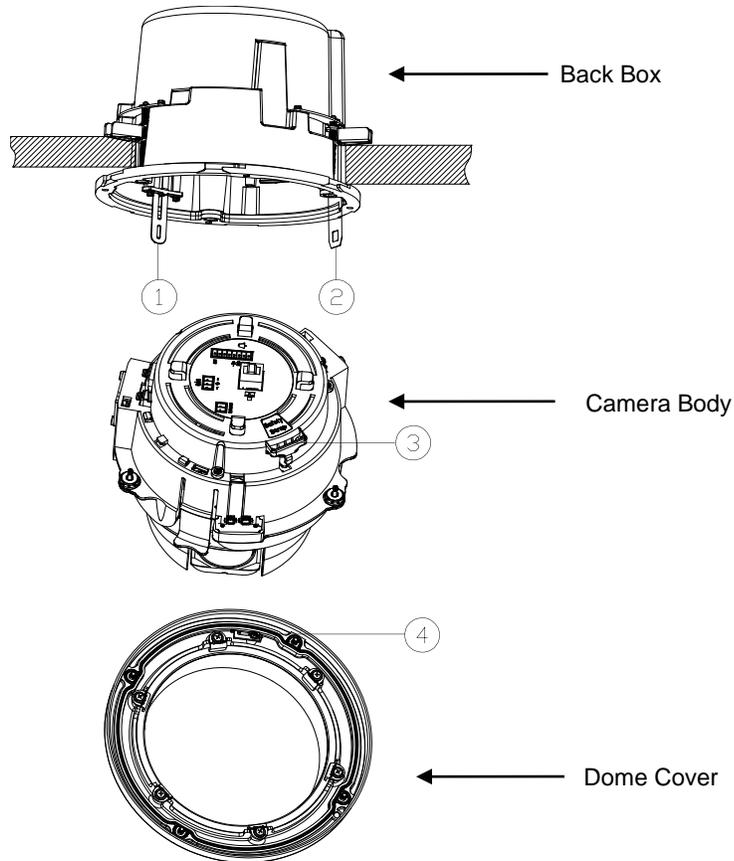
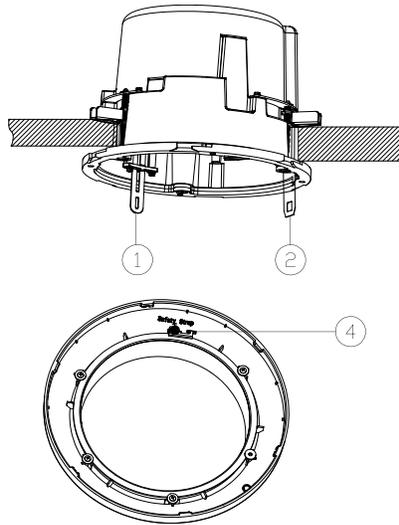

FIGURE 2-14: OUTDOOR IN-CEILING ALIGNING
FIGURE 2-15: Attaching the Lower Dome
4. Insert the back box into the hole and fasten the 3 screws with a screwdriver and supplied Torx bit so that the locking spring paddles can slide out to secure the back box into the ceiling/wall (refer to **Figure2-14** & **Figure2-15**).